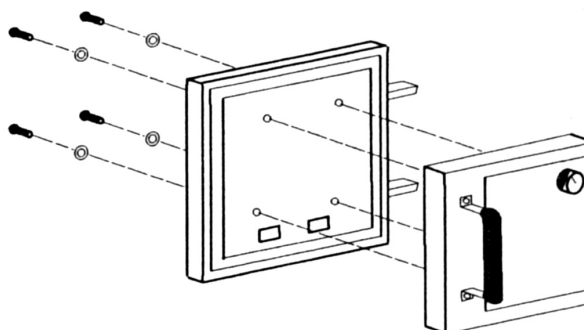

Fig. 4 – Door/Handle/Thermostat Assembly
2. Assemble the feed door pull handle as shown in figure 4. Install thermostat assembly and cover as shown.
3. Align thermostat control knob with flat on thermostat control shaft and press onto shaft (figure 4).